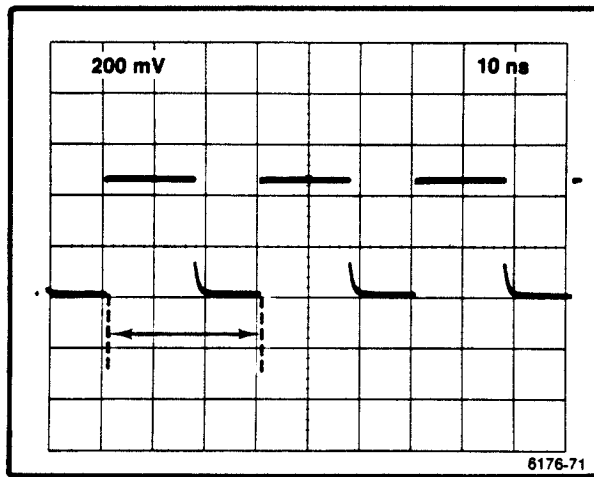

Figure 5-16. Trigger holdoff measurement.
a. **EXAMINE**—the oscilloscope display to determine the trigger holdoff time. Use the settings and holdoff values given in Table 5-13 (see Figure 5-16 for a holdoff measurement example).